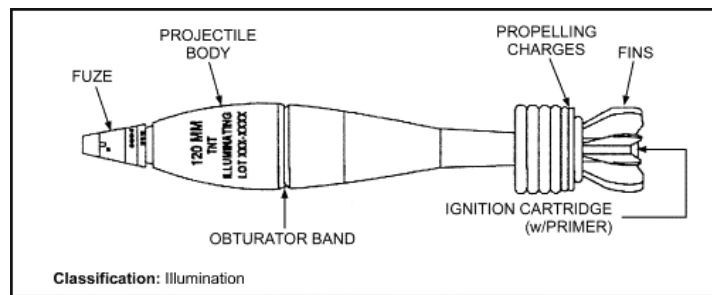

Figure 7-11. M91 illumination cartridge.
c. M91 Illumination Cartridge (NDI) (Figure 7-11).